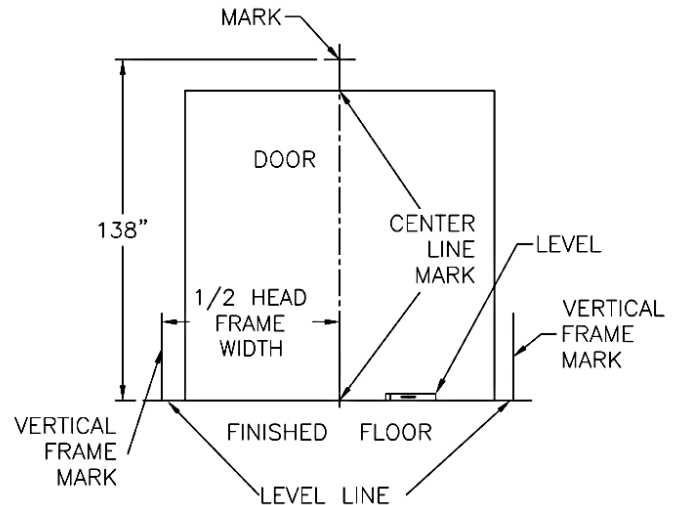

FIG. 2
- a. **Measure and mark center** of dock door opening (Figure 2).